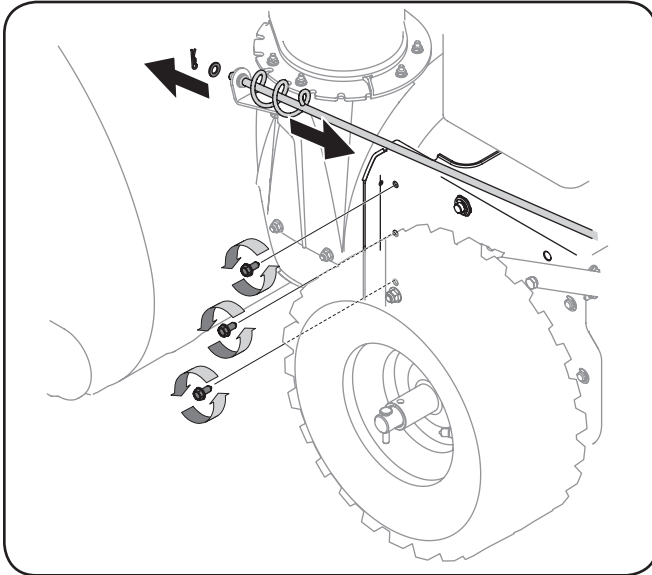

Figure 7-1
1. Disconnect the chute crank assembly at the discharge chute end by removing the hairpin clip and the flat washer. Refer to Figure 7-1.
- From both sides of the frame assembly, use a 1/2" wrench to remove the three hex tap screws securing the transmission frame to the auger housing assembly. Refer to Figure 7-1.